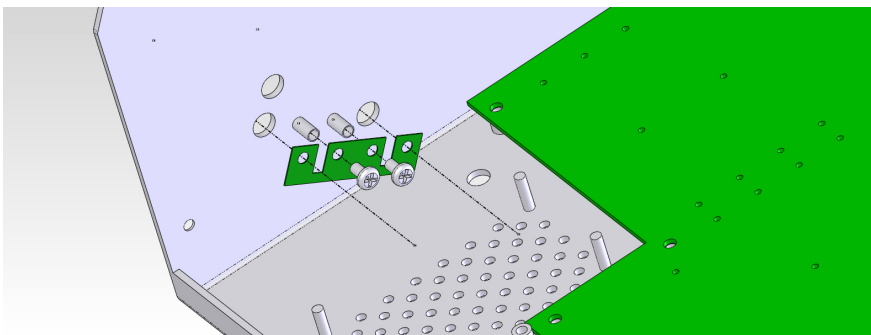

FIGURE 6. Hanger Return Spring
10. Inside the case top, assemble the **Hanger Return Spring** to the standoffs using the 1/4" long screws. *The spring must be installed so the open slots face away from the keypads and toward the bottom edge of the case top. See Figure 6.*